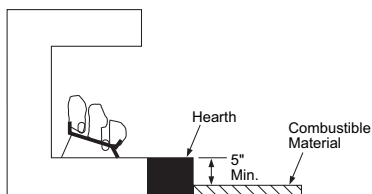

Figure 9 - Minimum Fireplace Clearances Above Combustible Flooring
- B. If combustible materials are less than 14" to the fireplace, you must install appliance at least 5" above the top surface of combustible flooring including tile and carpet.(see Figure 9).